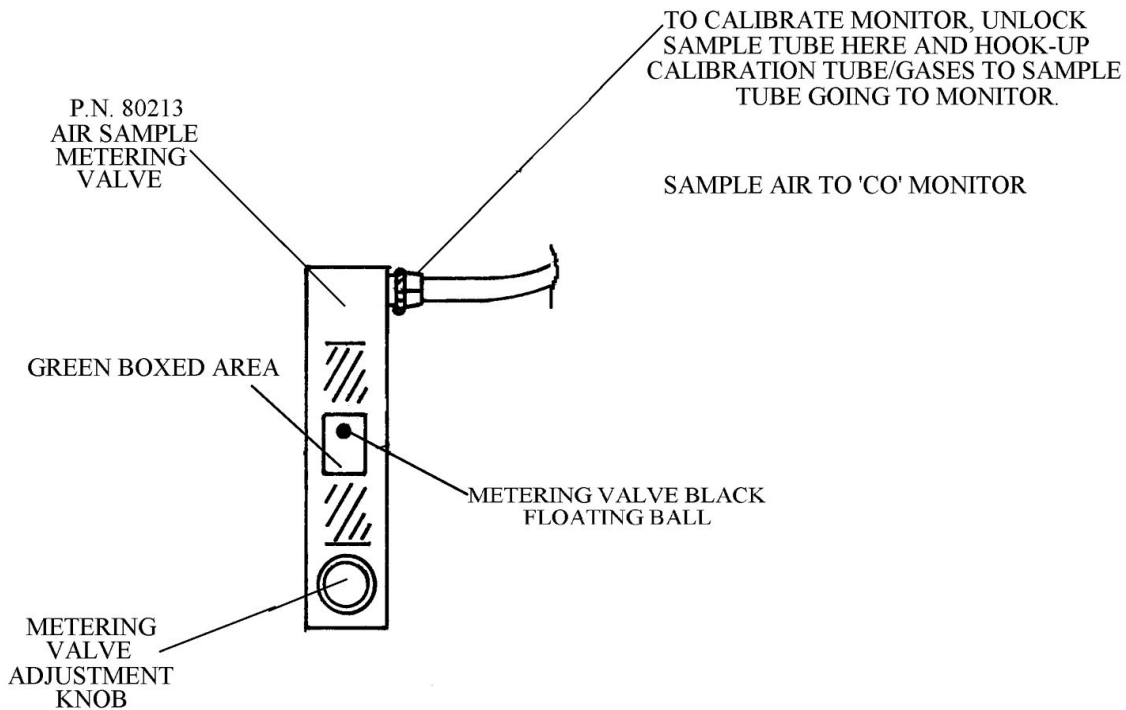

FIGURE NO. 2
ADJUSTMENTS - After the monitor has been calibrated, turn off the monitor and reconnect the external alarm (I). Turn the black flow control knob (E) clockwise to make sure it is turned off. Connect your compressed air to the inlet (C) and set the internal regulator (D) to approximately ten (10) psi. **NOTE:** The internal regulator has a locking cap that you must release prior to adjusting by pulling the yellow knob upward. Once the pressure is set, push the yellow knob down to lock it into position to prevent accidental movement during use. Once the pressure has been set, carefully turn the black flow control knob counter-clockwise to open the valve. Open just enough to keep the black ball floating about mid-range in the green "safe zone" area of the flow meter (refer to Figure No. 2).